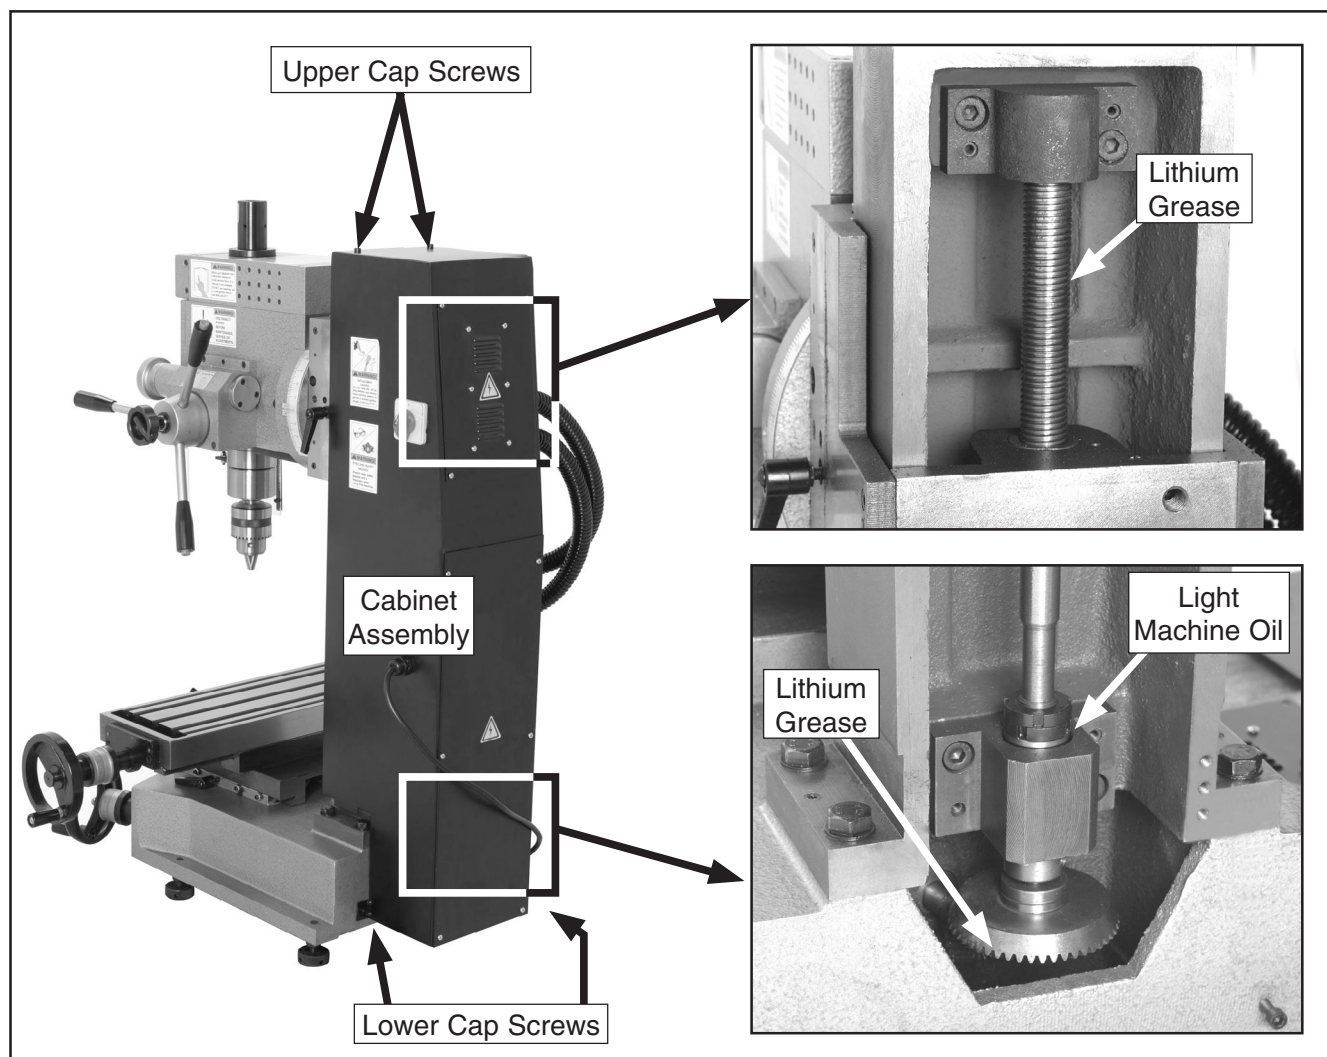

Figure 35. Headstock leadscrew access and lubrication.
2. Use the hex wrench to remove the two lower cap screws from the cabinet assembly (see **Figure 35**).
3. Hold the cabinet assembly, and remove the two upper cap screws (see **Figure 35**).
6. Paint the headstock leadscrew and gear teeth with lithium grease, and oil the bearings as outlined in **Figure 35**.